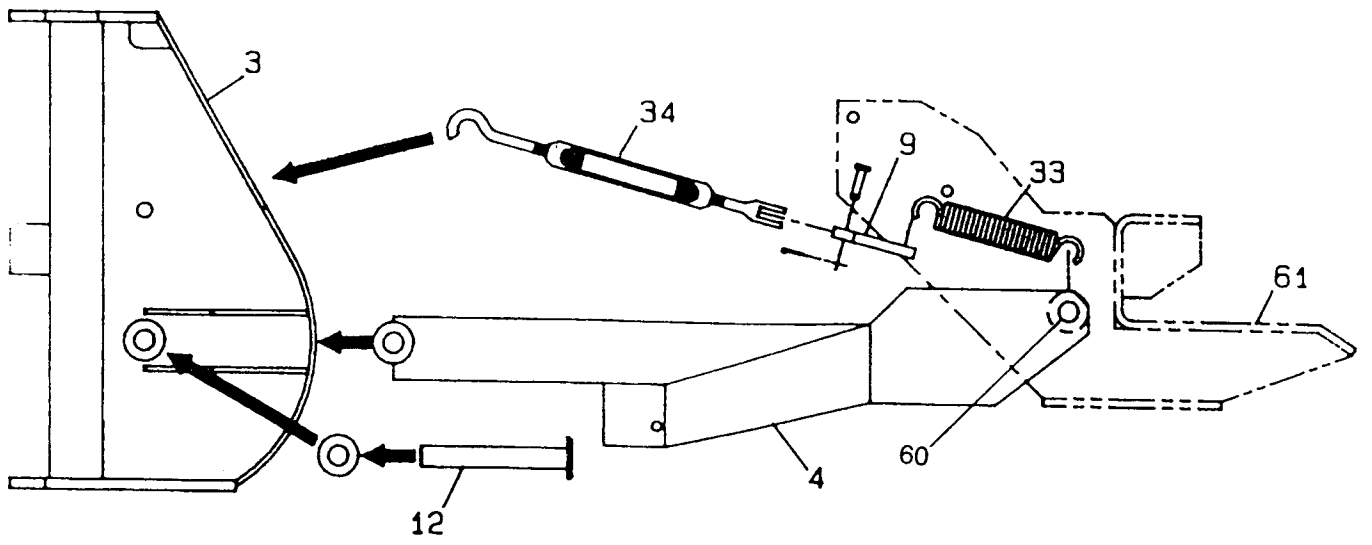

Figure 1
4. Position the CENTER HINGE ASSEMBLY (Ref. 3, Fig. 1) onto the T-FRAME (Ref. 4, Fig. 1). Align the T-FRAME bushing and the bushings on the CENTER HINGE ASSEMBLY then insert the HORIZONTAL HINGE PIN (Ref. No. 12, Fig. 1) through the bushings. Place a 1" washer on each end of the HORIZONTAL HINGE PIN and secure the HORIZONTAL HINGE PIN and 1" WASHERS in place by welding the washers to the pin.
5. Attach the TURNBUCKLE (Ref. No. 34, Fig. 1) hook end to the CENTER HINGE ASSEMBLY. Then attach the TRIP SPRING YOKE (Ref. No. 9, Fig. 1) to the jaw end of the TURNBUCKLE. Insert the TRIP SPRINGS (Ref. No. 33, Fig. 1) through the holes provided in the TRIP SPRING YOKE. By loosening the TURNBUCKLE, slack will be given to allow the loose TRIP SPRING ends to pass over the COUPLER PIN (Ref. No. 60, Fig. 1). The proper tension of the TRIP SPRINGS will be determined after the plow is completely assembled.